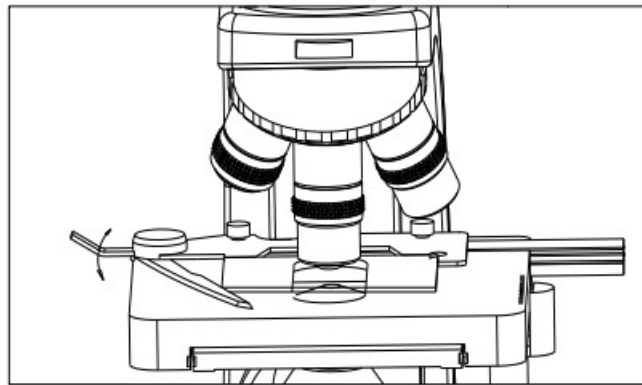

Fig.2
2. Insert the slide with the cover glass facing up and allow the arm of the specimen holder forward. (See fig.2)